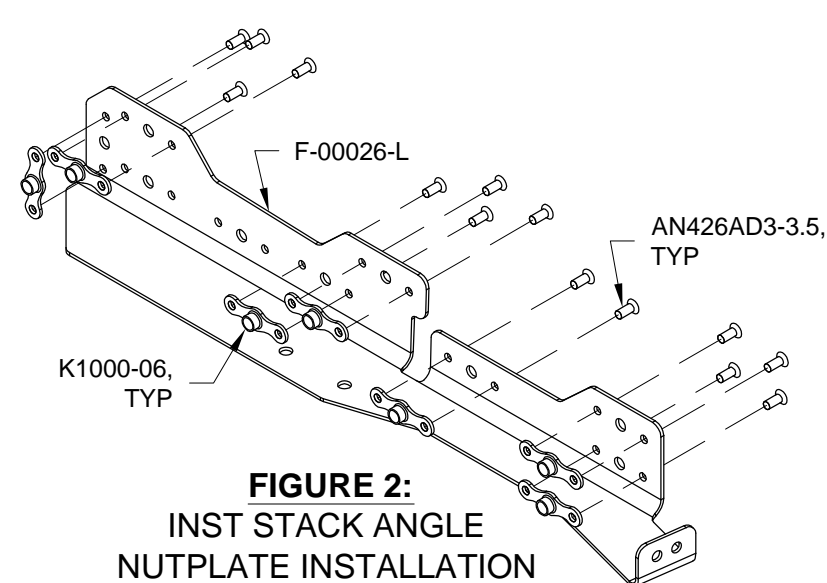

FIGURE 2:
Step 2: Machine countersink all the .098 diameter holes in the F-00026-L & -R Inst Stack Angles to fit the head of an AN426AD3 rivet. See Figure 2 to determine which surface to countersink.
Step 3: Install nutplates on the F-00026-L & -R Inst Stack Angles in the locations shown in Figure 2. Note that there are two locations on each inst stack angle which do not have nutplates installed.